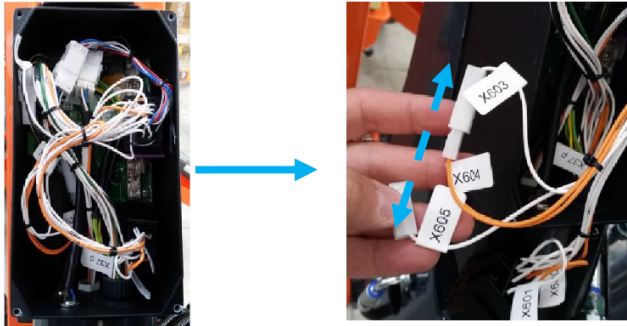

Figure 4-54.
11. Open load cell board (ECM3) box, locate connectors X604 and X603, then disconnect them. See Figure 4-54.